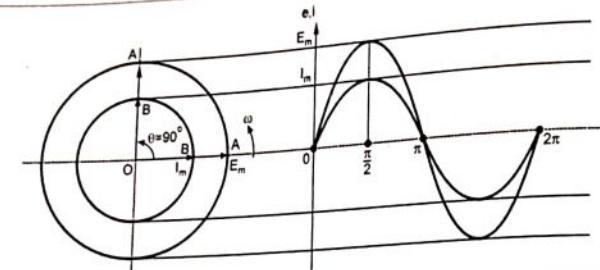

Fig. 2.11.3 In phase alternating quantities
- The phasor representation and waveforms of both the quantities are shown in the Fig. 2.11.3.